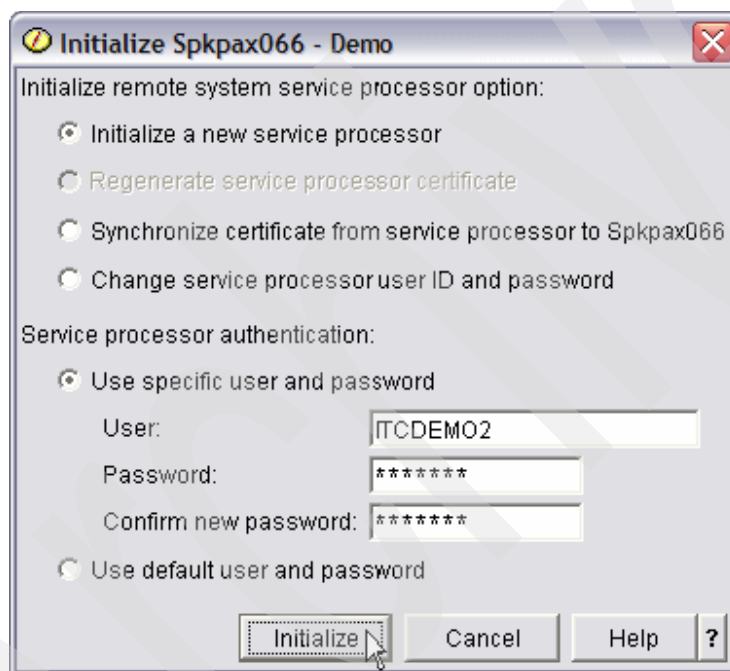

Figure 6-23 Initialize option on Initialize window for existing user
3. The Initialize window opens (Figure 6-23), select **Initialize a new processor**.